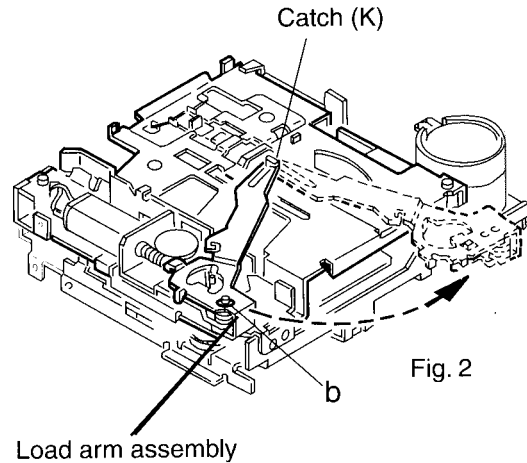

Fig. 2
■ Removing the Load Arm Assembly (See Fig. 2)
3. Remove the load arm assembly from the catch (K).